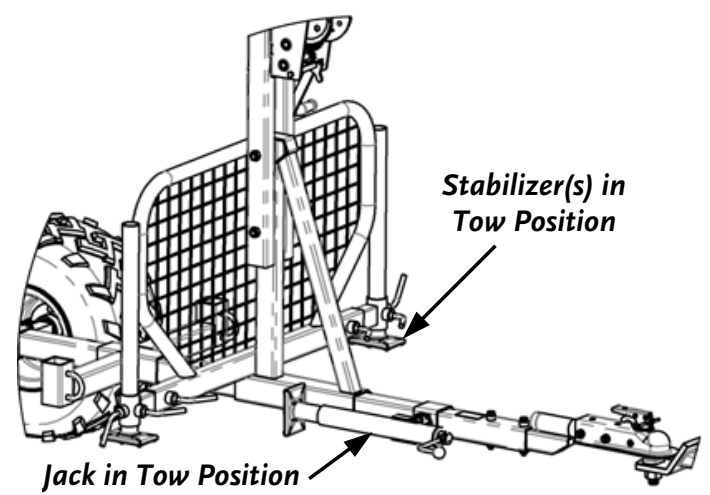

Figure 42
5. Loosen the Locking Handles for the Stabilizer Legs and raise them to the highest position for towing. Re-tighten the Locking Handles and rotate the Trailer Jack to the Tow position (**Figure 42** on page 19).